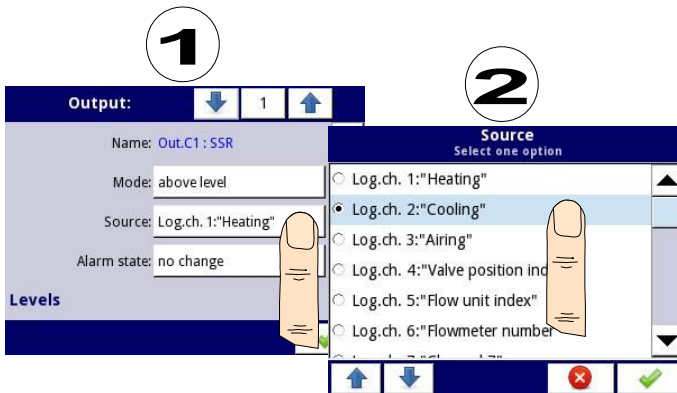

Fig. 7.84. Data source settings for built-in output (for SSR output module)
- **Source** – this parameter contains a list of logical channels (up to 60), where the selected logical channel will be a data source for this built-in output (see **Fig. 7.84**).
- **Source** - this parameter contains a list of logical channels (up to 60), where the selected logical channel will be a data source for this built-in output (see **Fig. 7.84**).
logical channel will be a data source for this built-in output (see **Fig. 7.84**),